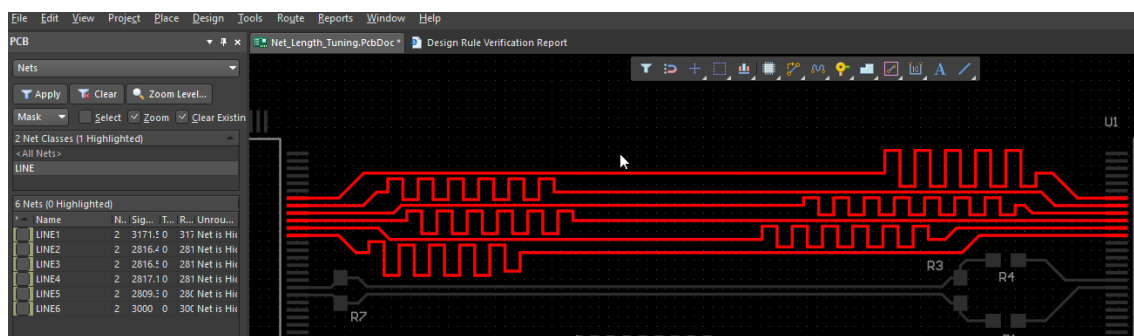

Figure 4. Staggered tuning on Line tracks
30. Your end result should look similar to Figure 4. The *Signal Lengths* in the *PCB* panel should no longer have an orange highlight, showing that you're adhering to the design rule.